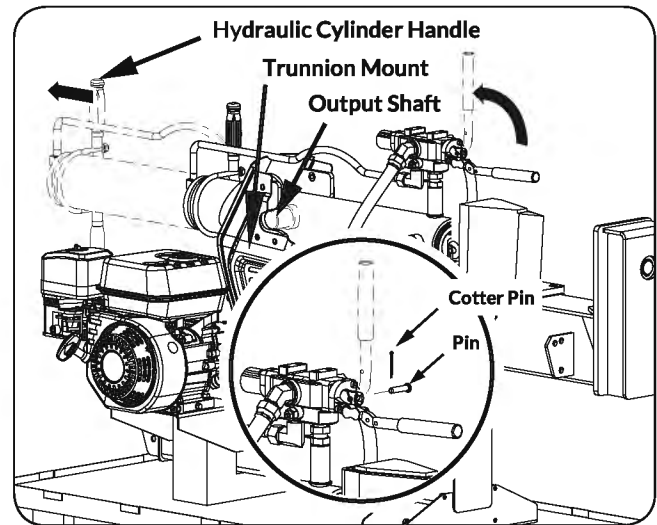

Figure 3
- The control handle is shipped hanging from the valve on the handle link. Remove the pin and cotter pin from the control handle. Move the control lever to the vertical Neutral position (shown in circle on illustration **Figure 3**.)